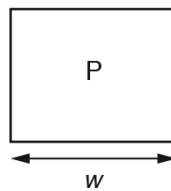

Fig. 1.2
- (e) On Fig. 1.2, measure the width w of the load P .